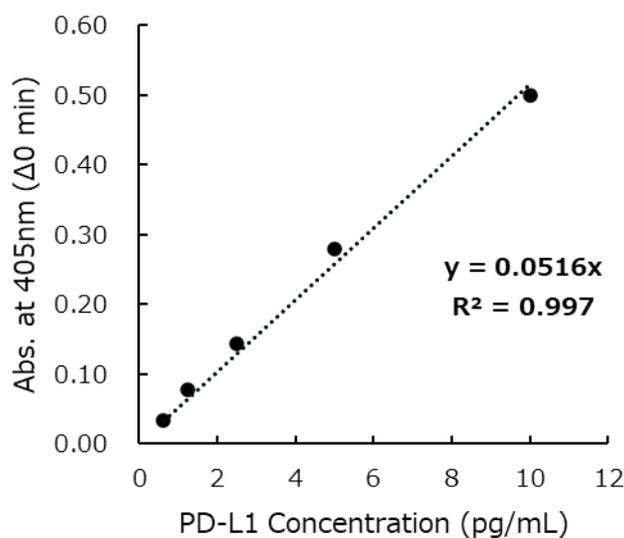

Fig. 6 Calibration curve
The absorbance values (405 nm ($\Delta 0$ min)) and coefficients of variation (CV) for the standard PD-L1 concentrations (pg/mL) are shown in Table 4 (measurement wavelength: 405 nm [primary wavelength], 660 nm [reference wavelength]; measurement time: 55 min). The calibration curve generated from the absorbance values listed in Table 4 is shown in Fig. 6.